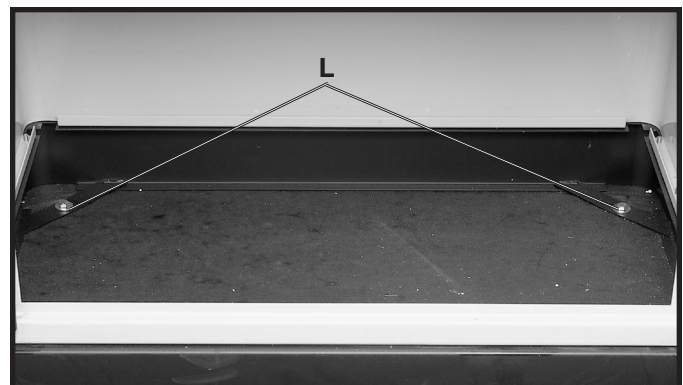

Fig. 4
4. Remove the four screws that attach the sander base to the shipping skid. Note: Two of the screws are shown at (L) Fig. 4.